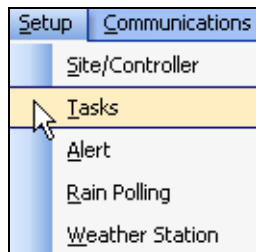

Figure 12.1.1
1. In the toolbar at the top of the screen select **Setup** and scroll down to **Tasks** and click on it (Figure 12.1.1).